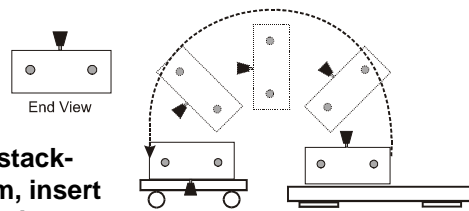

**Figure 10. Remove the tricep back rest, the top plate and the guide rods.**
- A. Using a 9/16" socket and combination wrench, remove the tricep back rest bolts (see Figure 10).
- B. Using a 9/16" socket and combination wrench, unbolt the top plate and remove the guide rods (see Figure 10).
- Using a 7/8" combination wrench, bolt the floating pulleys into the 190 lb weight stacks (except for the tricep pushdown weight stack- the one with the tricep back rest mounted to the frame as shown in Figure 10). You will need to remove the pulley from the housing to thread the plug into the weight stack bayonet. Make sure the 9/16" jam nut is threaded 1-5/8" away from the pulley as shown in Figure 12. Leave the pulleys out since you will need to have them out when the cable is routed.